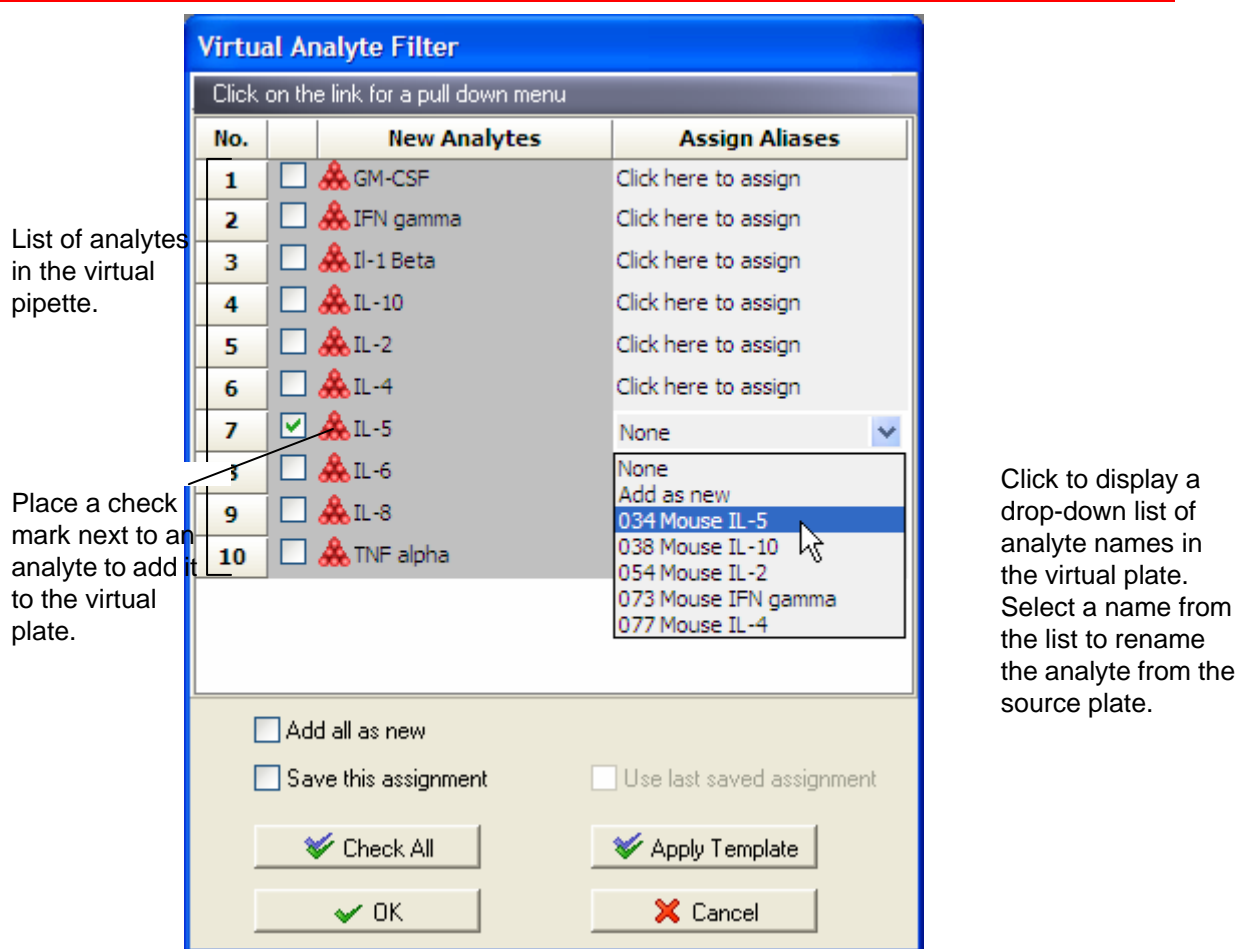

Figure 6.9 Virtual analyte filter
This is true for virtual plates as well. When you add data to a virtual plate, MasterPlex™ QT compares the name and number of the analytes in the virtual pipette to those in the virtual plate. The virtual pipette will not dispense if there are discrepancies between the number or names of analytes in the pipette and the virtual plate. If the number of analytes in the pipette is greater than that in the destination plate, the virtual analyte filter automatically appears (Figure 6.9).
1. In the virtual analyte filter (Figure 6.9), place a check mark next to each analyte that you want to add to the virtual plate. To select all analytes for the virtual plate, click **Check All**.
⇒ A drop-down list shows the names of the analytes in the virtual plate (Figure 6.9).